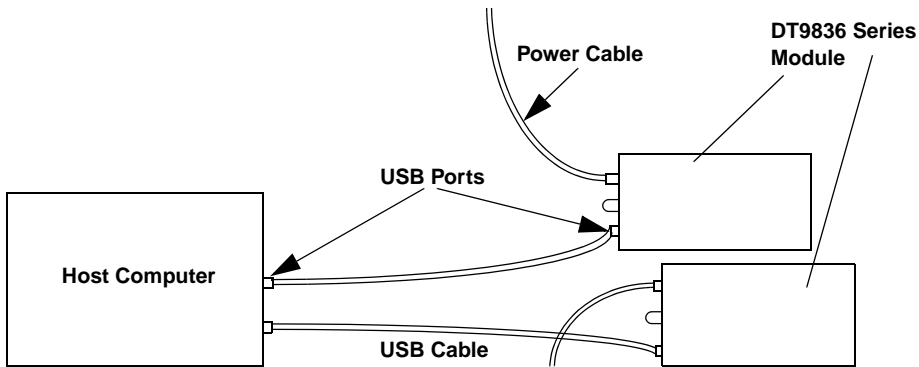

Figure 3: Attaching the Module to the Host Computer
3. Attach the other end of the USB cable to one of the USB ports on the host computer, as shown in Figure 3.